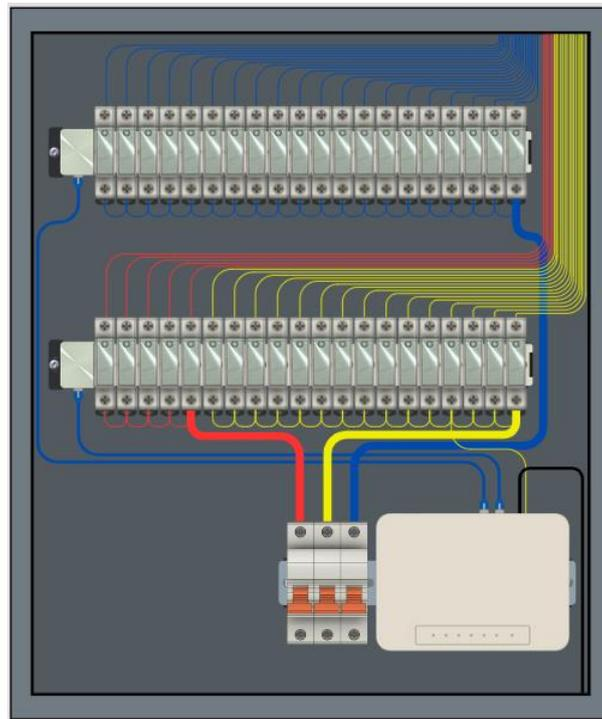

Figure 4 EBQ full placement in DB box
4. Completes all wiring to all breakers in DB Box as shown in Figure 4.